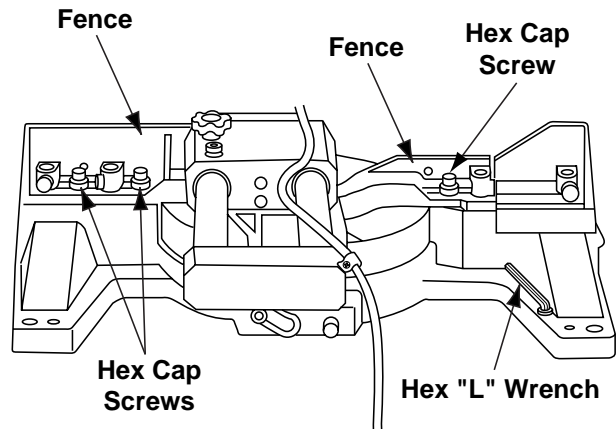

Figure 11. Fence Adjustment
- b. Use hex wrench (supplied) and loosen three (3) hex cap screws behind fence (Figure 11).